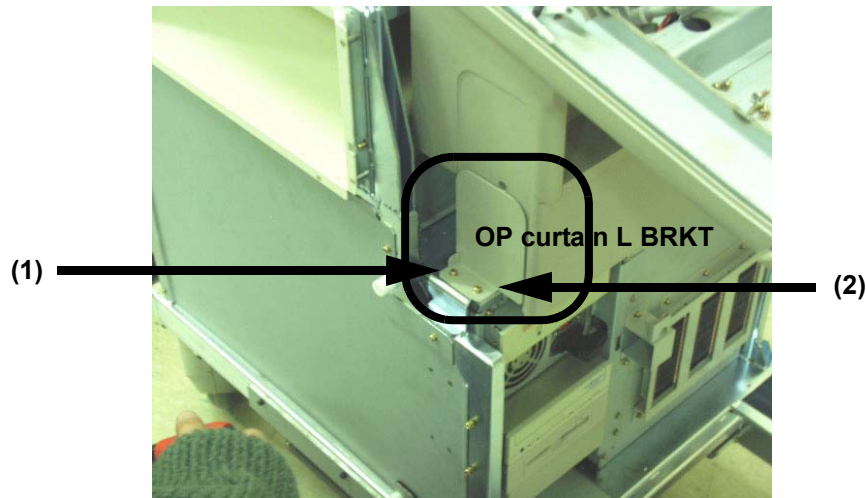

Figure 8-85 Removing OP Curtain L BRKT
- 6.) Unscrew two (2) screws (1-2) and remove OP Curtain L Bracket. Refer to Figure 8-85 on page 8-40 .